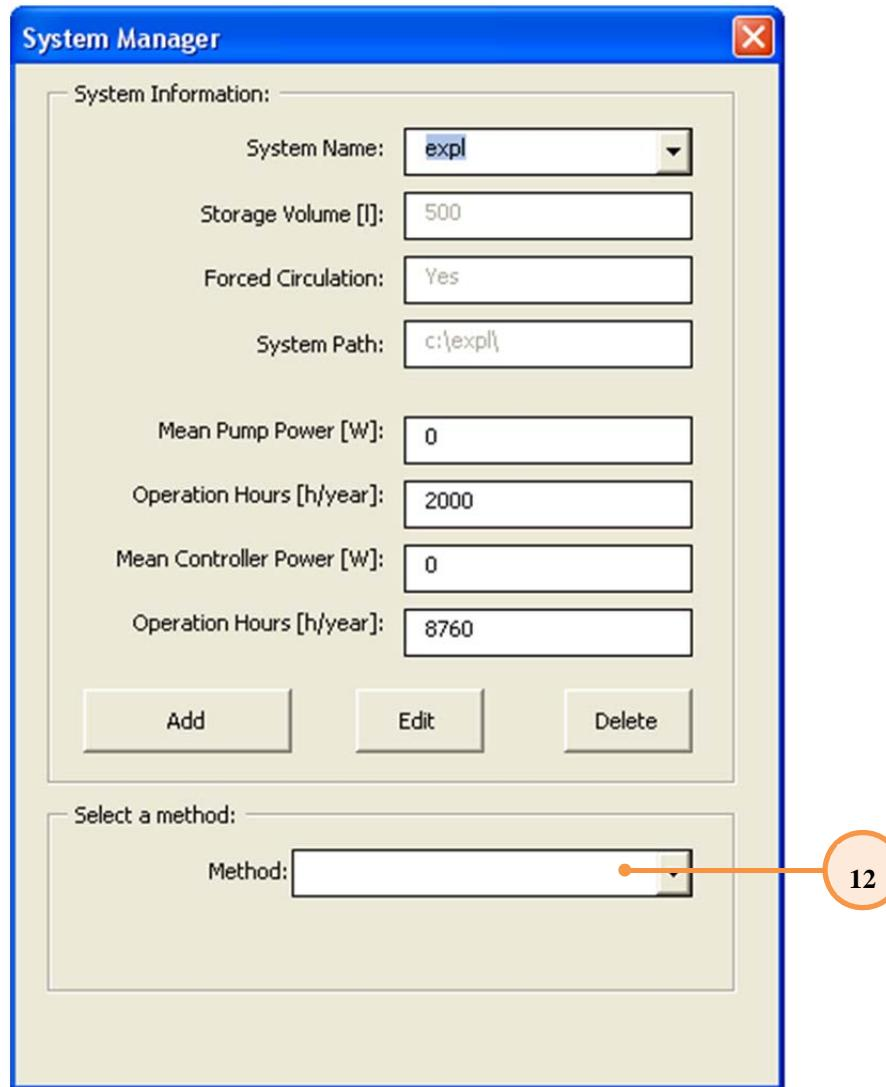
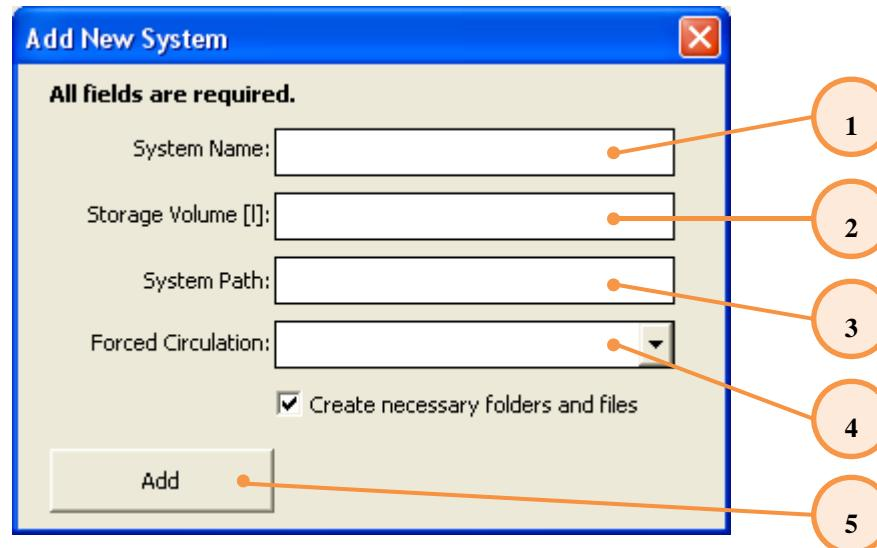

Figure 4 - System Manager window with a system selected
Figure 6 – “Add New System” window
- ...\\systemName – the path indicated in Figure 6 in the field number 3
To add a system to the database you must click in the button “Add” in the “System Manager” window (number 9). The window illustrated in Figure 6 will appear. To add a new system you must fill all the fields available in the new window (numbers 1 to 4 in Figure 6). After this step you can click in the “Add” button. The “Add New System” window will close and the newly added system properties appear in the “System Manager” window as illustrated in Figure 4. The window can be closed using the close button at the top right corner and nothing is saved in the database.
Table 2 – Description and input data type of the fields and buttons available in Figure 6